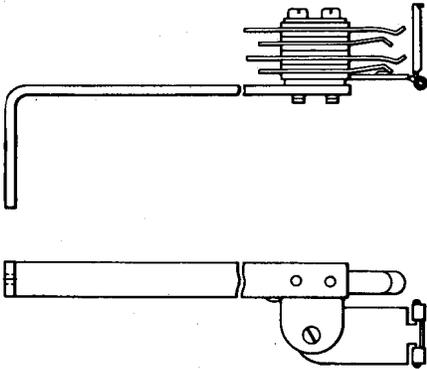

Fig. 13—328 Jack
**2.13 328:** This multicontact jack (Fig. 13) is used with the 240A plug. This jack is primarily used on the 931-type mounting plates in connection with repeaters in Step-by-Step Switching Systems. This jack is provided with a number plate holder. The terminals are designed for mechanically wrapped connections.